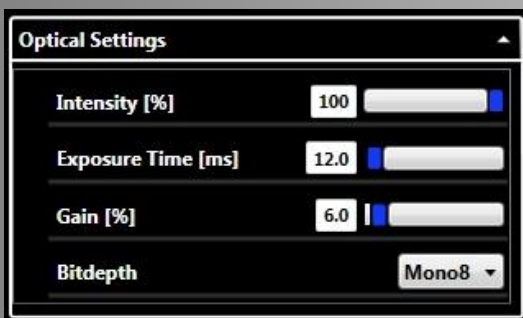

Fig. 12: Best Optical Settings in BF for this example
In case that the image is either too dark or bright, check the 'Histogram' on the lower left side and use (tick the box) 'Liveview' while adjusting 'Exposure Time' and 'Gain' accordingly for the brightfield (BF) channel (Fig. 12). Now deactivate 'Liveview' to cross check the 'Current grey value' in the upper left 'Image Info' box (abt. 130 counts) by simply moving the mouse cursor over the image. Press 'Process Image' (lower left side) to get an actual overview of your settings.